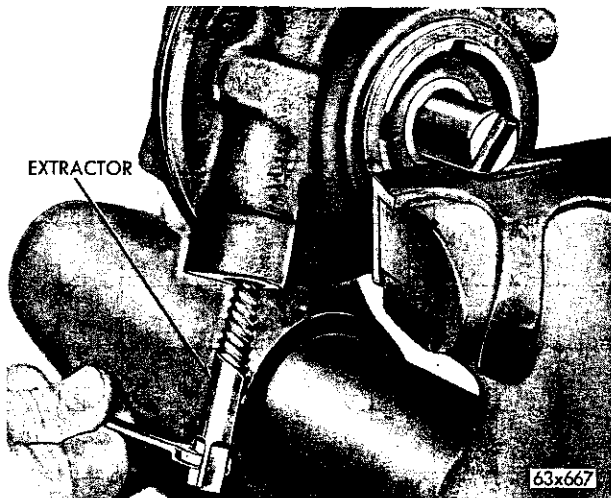
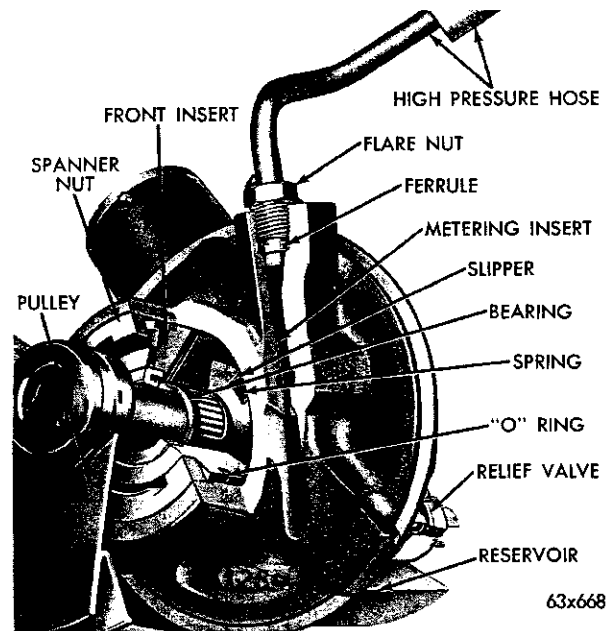

Fig. 56—Installing the Ferrule Extractor
Fig. 57—Pump Cut-Away View
(4) Remove the pump from the vehicle.
(5) Clamp the pump in a vise with the discharge opening in the down position, this will prevent any chips from falling into the pump.
(6) Use a No. 4 screw-extractor (E-Z Out). Turn the extractor into the ferrule (Fig. 56), then rock the extractor slightly to remove the ferrule. Perform this operation carefully so as not to damage the threads on the housing.
(7) Clean out the discharge bore of any foreign material (brass chips, dirt, etc.).
(8) Center the new ferrule with the tapered end up in the housing bore. The ferrule is pressed into place by reinstalling the high pressure hose and tightening the flare nut to 24 foot-pounds torque. Figure 57 is a cutaway view to show the ferrule properly seated in the housing.